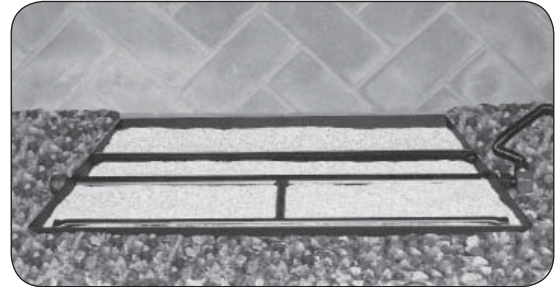

Fig. 10-2 Place sand
1. Fill the burner pan with the supplied bag of sand (see Fig. 10-2).